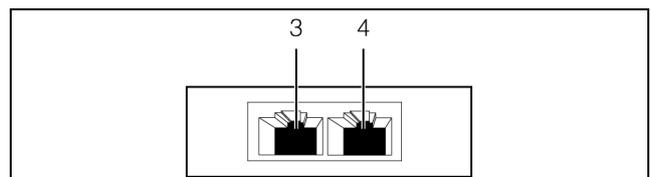

Fig. 7: Rear of the access sensor
- Use a CAN bus connection cable to connect the access sensor to a CAN bus interface on the CMC III Processing Unit or the neighbouring component on the CAN bus (fig. 7, item 3).
- If necessary, connect another component (e.g. another sensor type) to the second, free CAN bus interface of the access sensor (fig. 7, item 4).